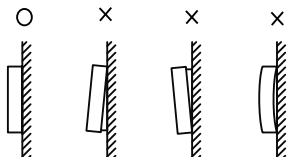

Fig.12
- Correct install the back cover and firmly buckle the front cover and back cover, otherwise will make the front cover drop off. (Fig.12)